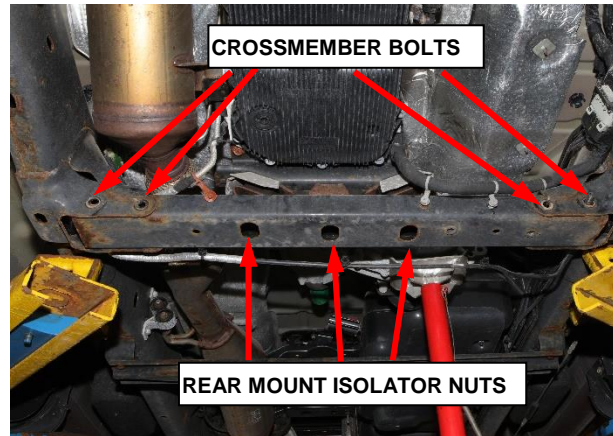

Figure 4 – Transmission Crossmember
72. Connect the NOx sensor 1/2 wire harness connector (2) (Figure 4).
13. Remove rear mount isolator nuts, the crossmember bolts, and crossmember (Figure 4).